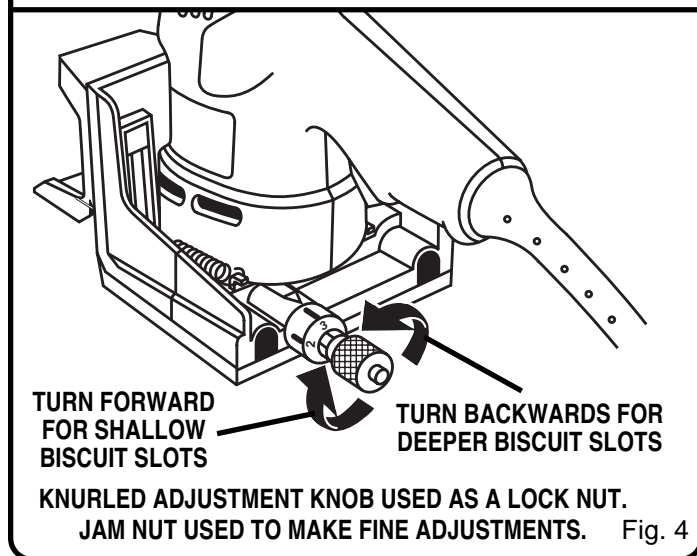

Fig. 4
See Figure 4.
- Recheck depth setting by making a test cut in a scrap piece of wood. Also periodically check depth setting for accuracy. See Figure 4.